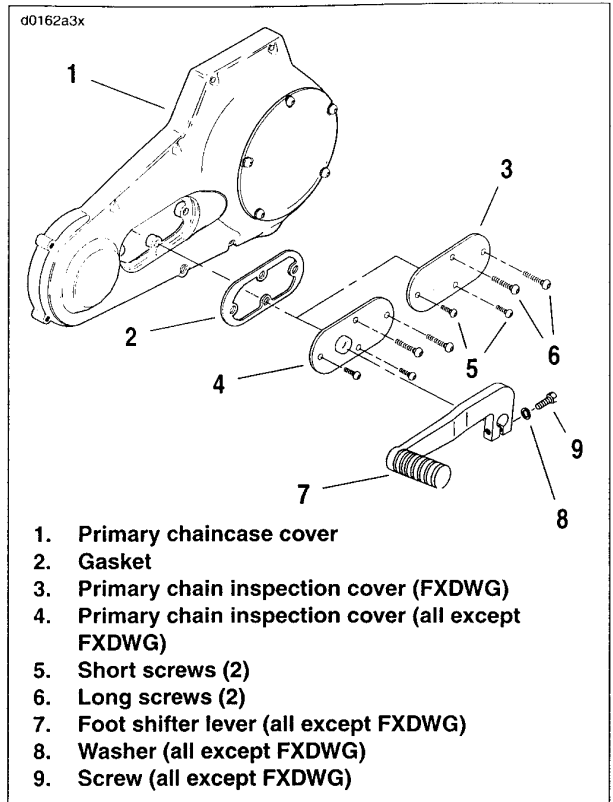

Figure 1-21. Inspection Cover
2. See Figure 1-21. On all models except FXDWG, remove screw (9), washer (8) and foot shifter lever (7).
3. Remove two short screws (5), two long screws (6) and primary chain inspection cover (3 or 4).
7. See Figure 1-21. Install inspection cover (3 or 4) and **new gasket (2)**. Tighten both pairs of cover fasteners (5, 6) to **84-108 in-lbs (9.5-12.2 Nm)**.
8. On all models except FXDWG, install foot shifter lever (7), washer (8) and screw (9). Tighten screw to **96-120 in-lbs (10.8-13.5 Nm)**.